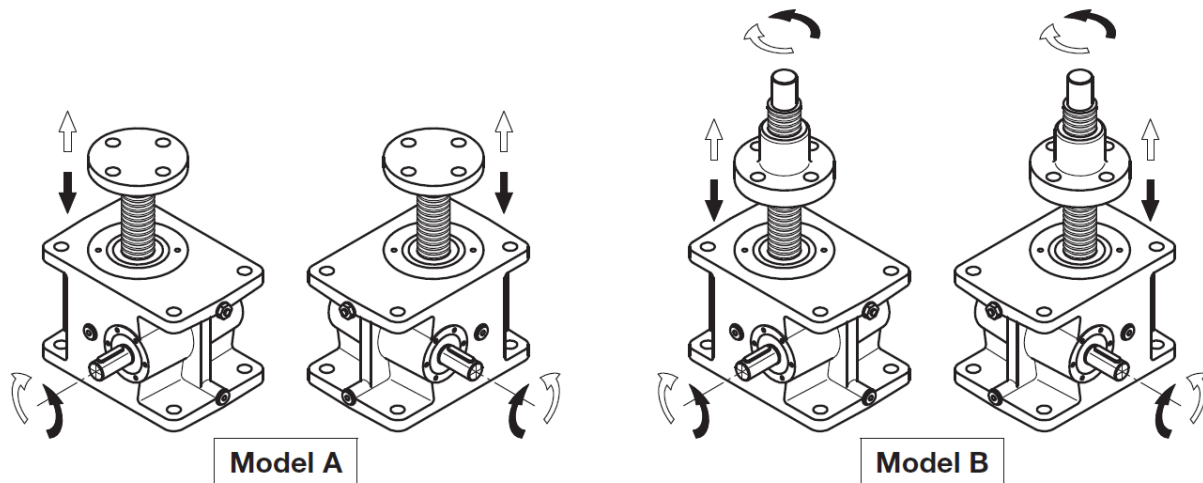

Figure 6.14 –Screw jack shifting directions
- If the position of the acme screw have to be changed (acme screw more retracted or extended) during installation, rotate the input shaft in proper direction (see Fig. 6.14).
- In case of screw jack without anti-rotation device (AR), it is possible to manually screw/unscrew the acme screw to change the length of the screw jack.
- In case of screw jack with bellow protection (B): DO NOT TWIST THE BELLOW.
- To change the position of the acme nut without rotating it, rotate the input shaft of the screw jack in proper direction (see Fig. 6.14).